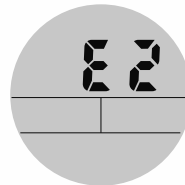

Figure 8
Step 6: When the initial speed or preset speed has been started in 30 seconds and the motor's speed is under preset speed 3 m/h, the system will stop. Once its starts for 15 seconds, if **SPEED=0**, the monitor will show blinking **E-2** which is another error sign. The monitor starts to beep continuously till the AC power is switched off manually then the motor will stop (figure 8).